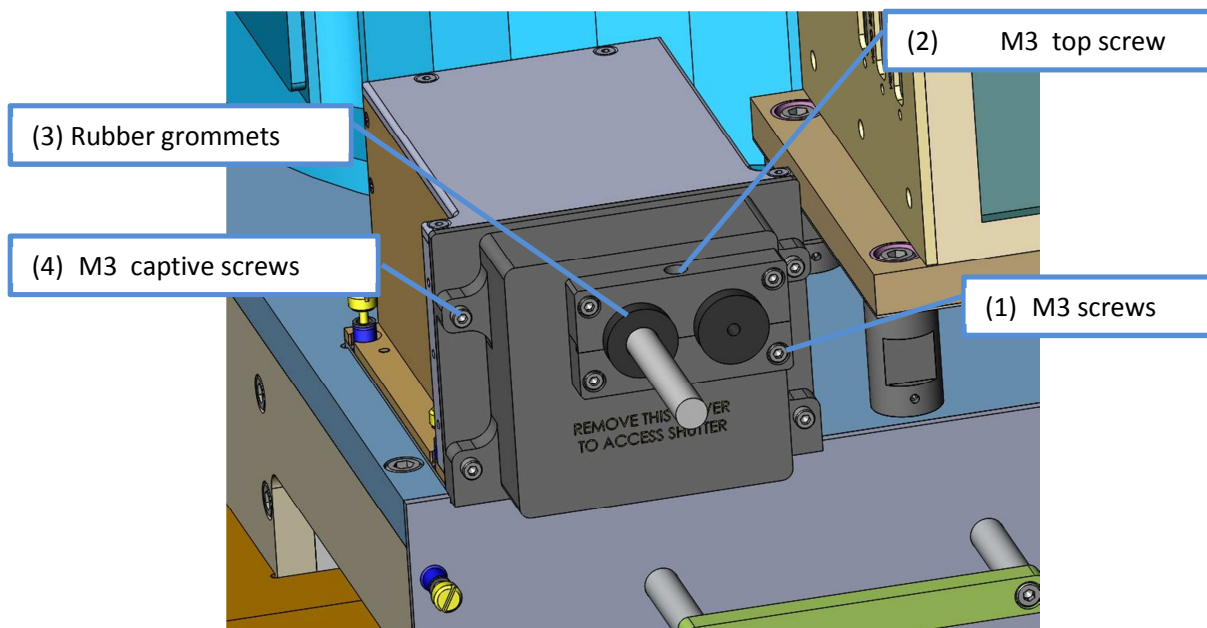

Figure 3. Detail of filter and shutter cover
2. Loosen -do not remove- the four M3 screws (item 1 in Fig.3) that hold the rubber grommets (item 3 in Fig.3) that seal the shutter cables, shown in Figure 3. Then loosen -do not remove- the M3 screw on top of this assembly (item 2 in Fig.3). Make sure that the cables are not held tightly by the grommets. The idea is to loosen this light-seal to be able to slide the cover back without disconnecting the cables
3. Loosen the four captive M3 screws (item 4 in Fig.3) that hold the shutter cover in place
2. Loosen the four captive M3 screws (item 4 in Fig.3) that hold the shutter cover in place
9. Tighten the four captive M3 screws (item 4 in Fig.3) that hold the shutter cover in place
10. Adjust the cable clamp position and then tighten the M3 screw on top of this assembly (item 2 in Fig.3). Tighten the four M3 screws (item 1 in Fig.3) that hold the rubber grommets (item 3 in Fig.3) that seal the shutter cables, shown in Figure 3. Make sure that the cables are not bent and stress free after this step has been done